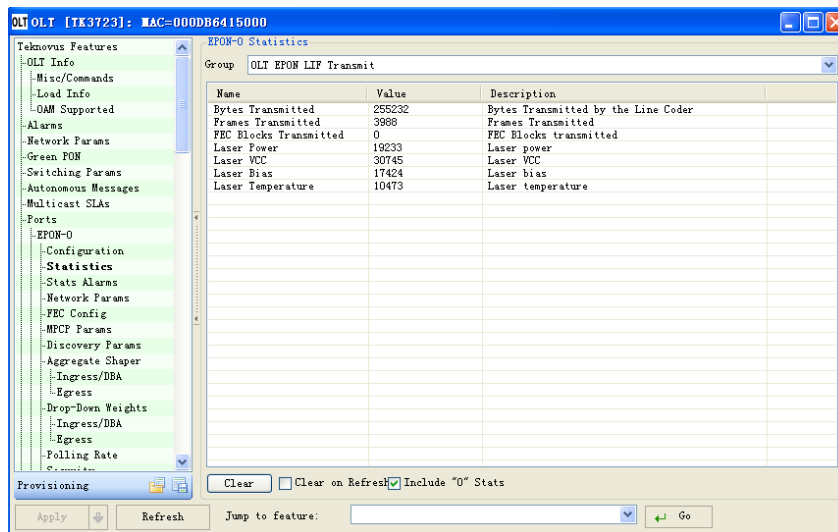

Figure 8-21 OLT Statistics Window
- 1) In the Ports part of the OLT located in the EPON port (EPON-0 or EPON-1), click Statistics to display the window shown in the Figure 8-21.